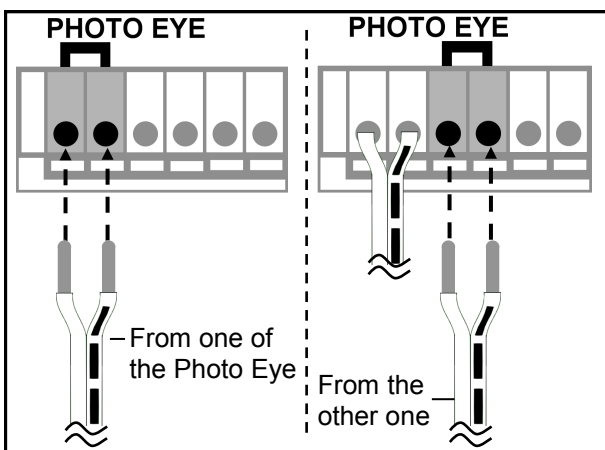

Fig. 3
1. Connect a pair of wires from either one of the Photo Eyes to a pair of "PHOTO EYE" terminals on the rear of the Opener as shown in Fig. 3. Refer to **Wiring Instructions** on page 13 for proper connections.